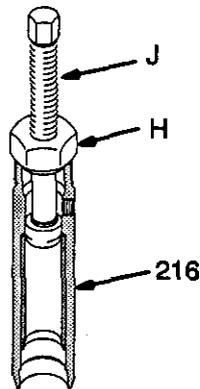

Fig. 30 0028
- Remove the sleeve whenever you service the pump. Use special tool, Part No. 224-787 only. Screw the nut (H) into the cylinder (219). Screw down the rod (J) to push the sleeve out. See Fig. 30.